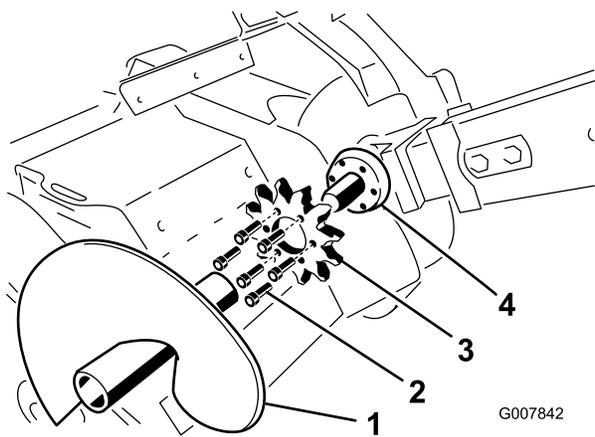

Figure 61
3. Remove the spoils auger (Figure 61).
8. Remove the six bolts securing the drive sprocket (Figure 61).
9. Remove and discard the drive sprocket (Figure 61).
10. Clean the sprocket mounting surface on the trencher (Figure 61).
11. Slide the new sprocket onto the shaft (Figure 61).
12. Thread the six bolts into the sprocket finger tight (Figure 61).